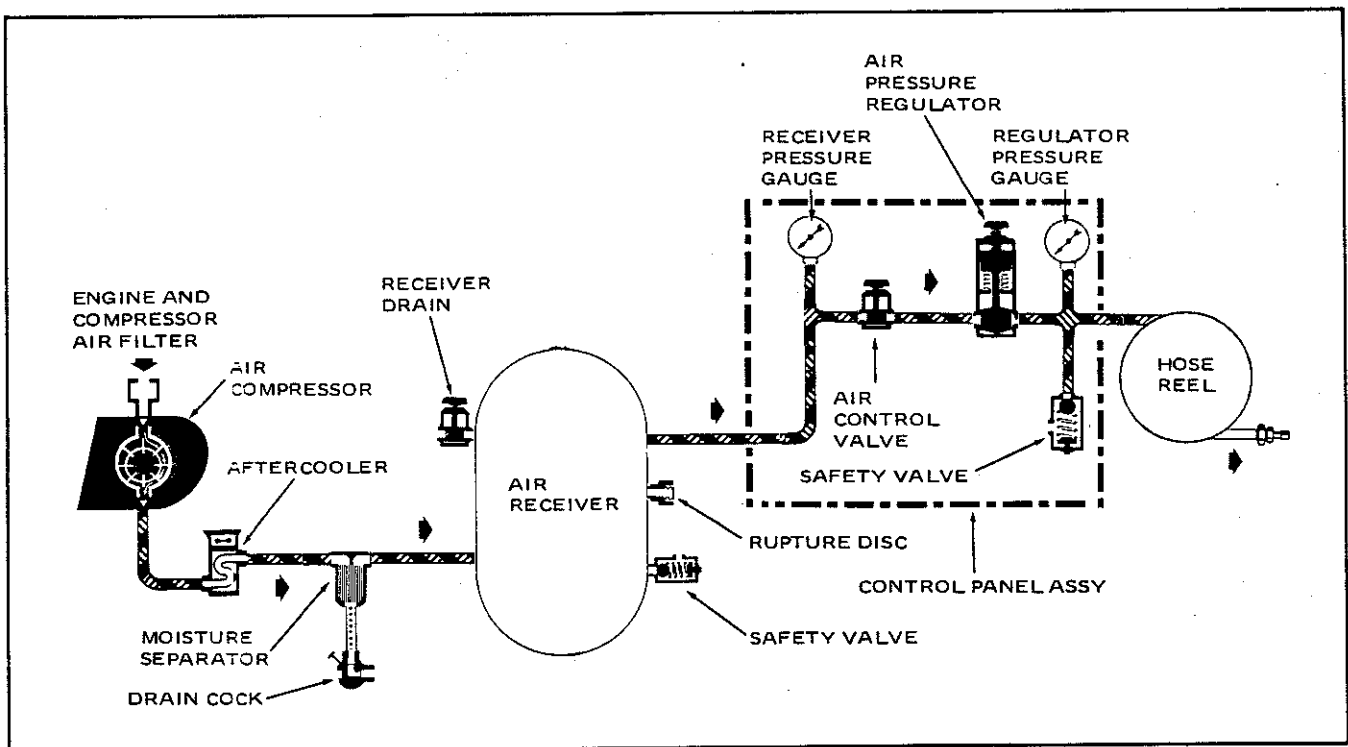

Figure 1-4. Air Flow Diagram
intake. A thermal bypass valve is incorporated on the compressor to provide rapid warming of the compressor oil at initial start-up and to maintain relatively constant minimum operating temperature which minimizes formation of moisture condensate in the air system. Refer to figure 1-4 for air flow diagram.
**4-1. THEORY OF OPERATION.** The prime mover of the Type MC-2A is an air cooled, gasoline engine. Starting and stopping controls for the engine are on the control panel assembly. After the engine is started, the speed is controlled by a governor which increases or decreases engine speed in direct relationship to power required for load and unload of the compressor. The engine is directly connected to the compressor by means of an impeller-drive coupling half mounted on the engine crankshaft and the coupling driven half mounted on the compressor rotor shaft. Air is drawn into the compressor through an oil bath type air filter which serves both the compressor and engine. The air enters the compressor first stage for partial compression; then, passes to the second stage for compression to the unit designed pressure. The compressed air passes from the second stage through an oil separator assembly where virtually all oil is removed from the air. Heat of compression is removed from the air by the air passing from the oil separator through an aftercooler, a moisture separator, and into the air receiver. A suction type fan draws air through the aftercooler passing over the cooling fins. The compressor lubricating oil is directed through an oil cooler where air is forced over the cooling fins by the impeller half of the coupling. Flow of compressed air at desired service pressure is controlled by the operator from the control panel assembly. Refer to figure 1-4 for an air flow diagram. Purpose and use of these controls are explained in detail in following paragraphs.
- (1) Park the unit on a level surface and set parking brakes. Unit should not be operated on a surface that is out-of-level more than 15 degrees in either direction, front-to-back or side-to-side. Open control panel and unit side doors.
- (2) Remove filler plug from compressor oil chamber and check oil level. Oil should be even with filler plug opening. Add oil as necessary, see table 5-2, and install filler plug.
- (3) Remove oil fill indicator and cap from engine and check oil level. Level should be to full mark. Add oil as necessary, see table 5-2, and install oil fill indicator and cap. Do not overfill.
- (4) Make visual inspection of unit checking for oil and fuel leaks. Check fuel level gauge on fuel tank. Add gasoline, MIL-G-3056, or equivalent, until tank is nearly full. Do not totally fill tank to allow for expansion due to heat.
- (5) Visually inspect tires for proper inflation. Check level of battery electrolyte. Open moisture separator drain cock and compressor oil cooler drain cock to drain off any accumulated condensation. Then, close both drain cocks.